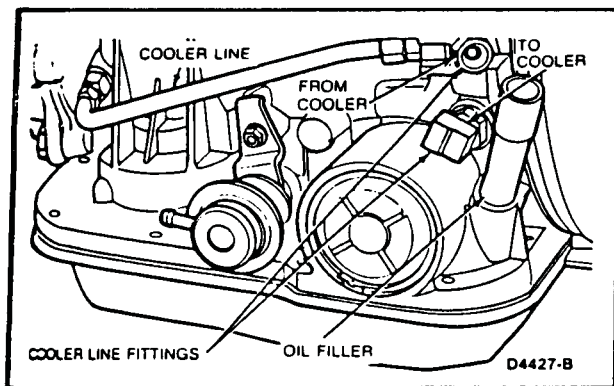

FIG. 6 Oil Cooler Line Fittings and Oil Filler Tube
18. Disconnect the oil cooler lines at the transmission (Fig. 6). Plug all openings to keep out dirt.
20. Remove the transmission filler tube (Fig. 6).